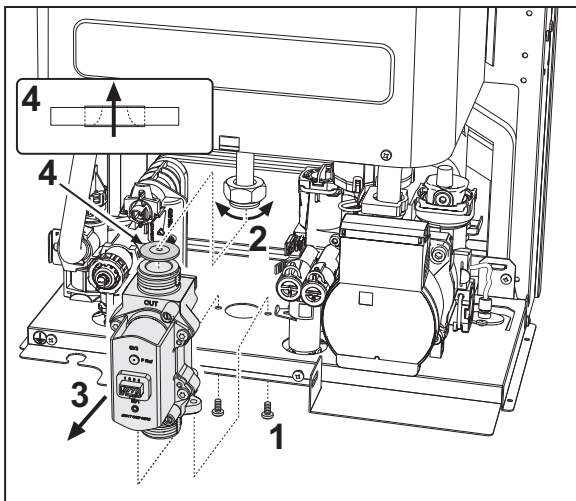

fig. 29- Gas valve replacement
- **The gas baffle "4" must comply with the direction indicated in fig. 29.**